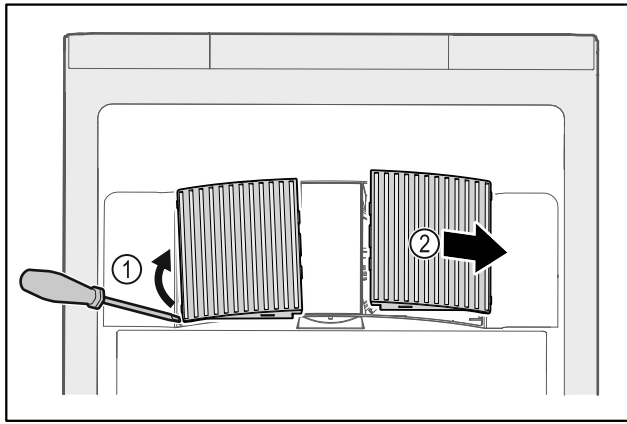

Fig. 164
- ▶ Carefully lever out fan covers from the side Fig. 164 (1) and remove towards the front Fig. 164 (2).